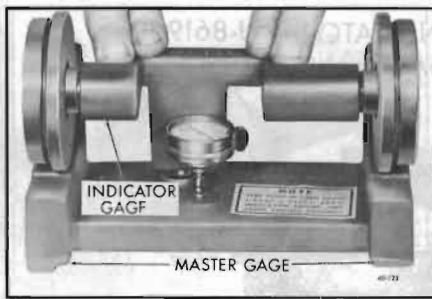

Figure 40-111—Zeroing Pinion Setting Gage
5. Place the indicator gage on the master gage, as shown in Figure 40-111 so that its spring loaded center is engaged in the centering hole of the Master Gage.